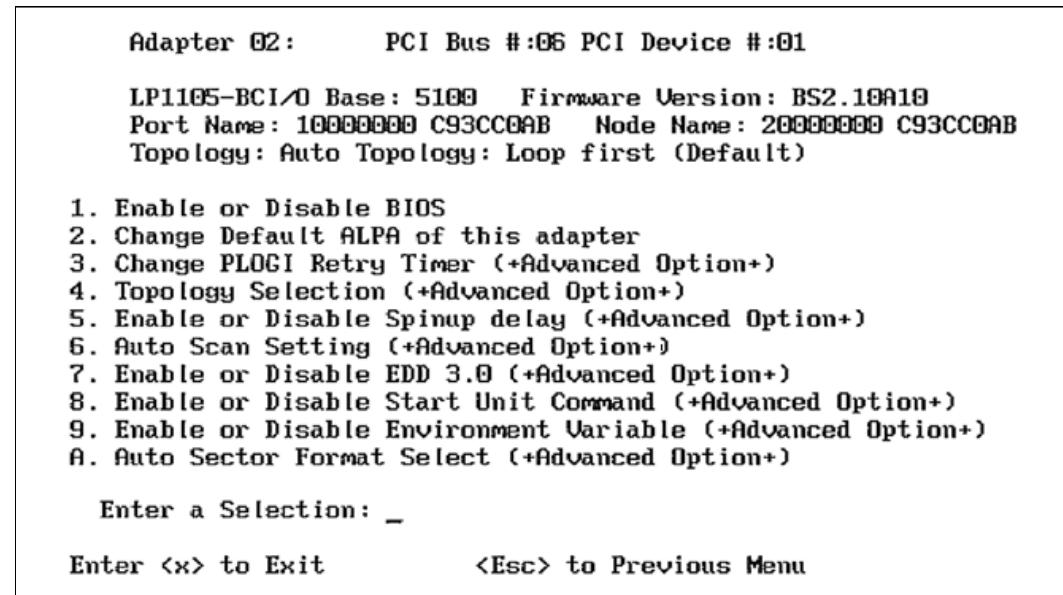

Figure 18-13 Configure adapter's parameters panel
6. Press Esc to return to the configure adapter's parameters menu as shown in Figure 18-13.